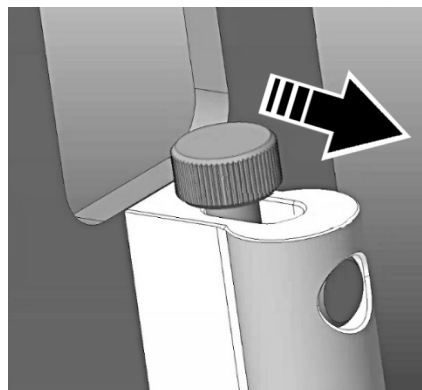

Figure 12. Safety latch on Installation Bracket
2. See Figure 12. Slide the safety latches on both sides of the installation bracket inwards towards the fixture to lock the rounded profiles on the bracket into the connection channels. The latches snap into place under spring pressure.